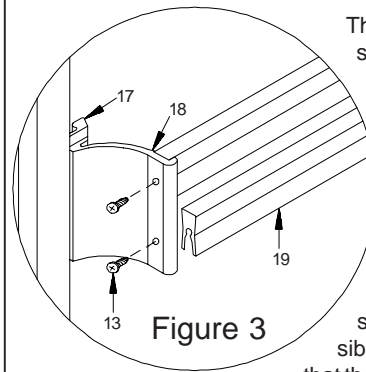

Figure 3
13. To set the slider pulls (17) and towel bar brackets (18), first remove any masking tape that was used to hold the vinyl in place. Now on the inside slider, push or gently tap the four pulls (17) into place in the 3" gaps left between the two ends of the glazing vinyl (9).
14. Repeat Step #13 on the outside slider making sure that the towel bar brackets (18) are on the outside. Assemble towel bars (19) to towel bar brackets with four #6 x 3/8" SMS screws (13). (See Figure 3.)